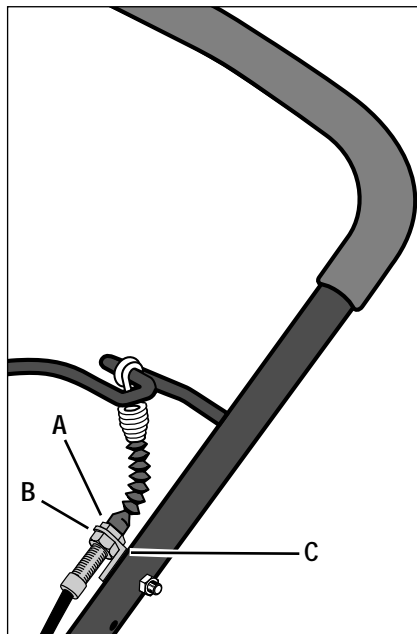

Figure 5-2: Belt tension adjustment.
D. To make an adjustment to belt tension, shut off the engine, let all moving parts stop completely, and adjust the position of the two nuts on the stud shown in Figure 5-2 as described next:
1. To tighten belt tension, close the bail, move the upper nut (A, Figure 5-2) upward, then move the lower nut (B) upward. To loosen belt tension, move the lower nut down and then the upper nut down. Tighten both nuts securely.
2. If adjustments over time move the nuts to the top of the threaded stud, the cable bracket (C) can be moved down the handlebar to the next hole. This permits a new range of adjustments.